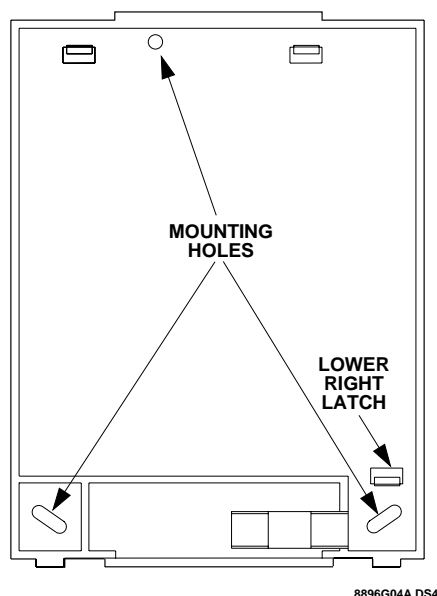

Figure 7. Base Mounting Hole Locations
- 2) Press down on the lower right corner of the base until the lower right latch releases the circuit board (see Figure 7).
- 4) Hold the base against the mounting surface and mark the three mounting holes (see Figure 7). Leave at least 10" above the base for the antenna.